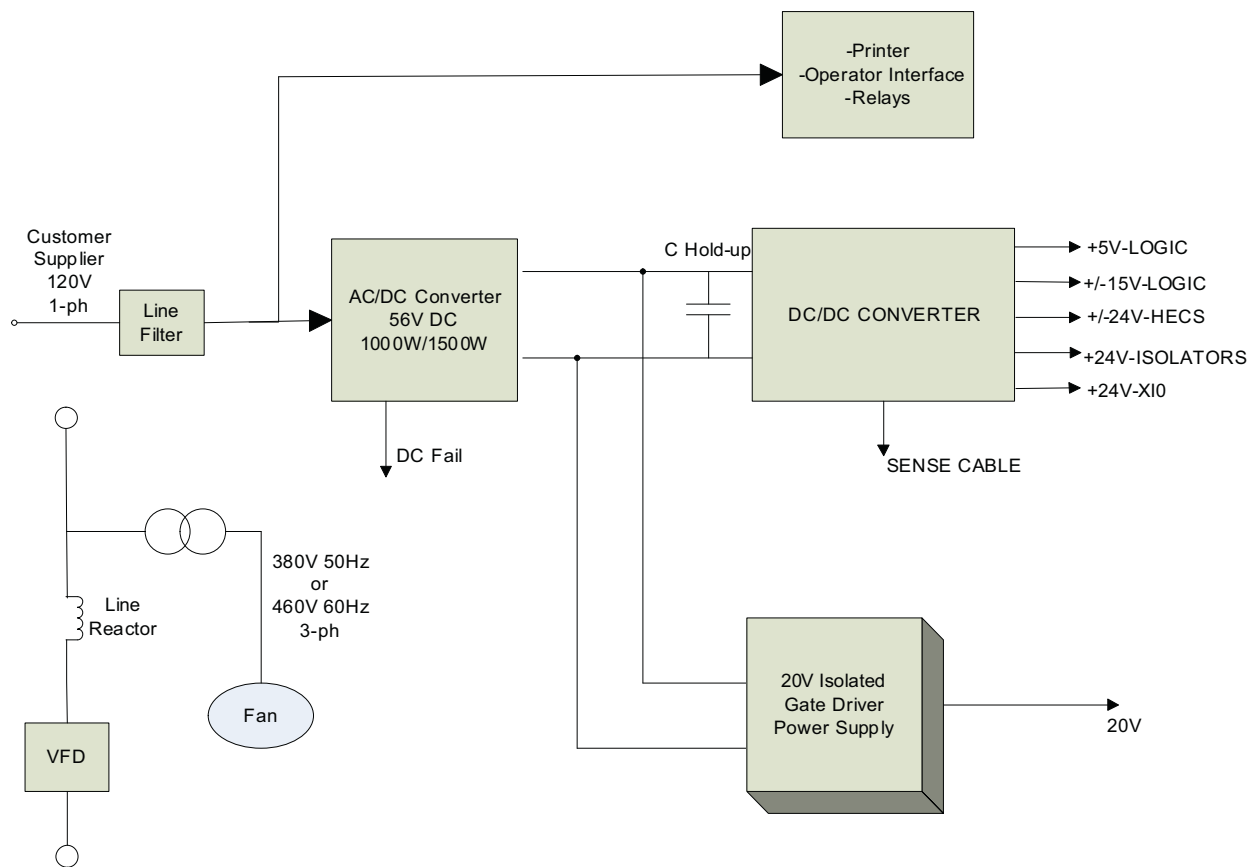

Figure 79 - AFE Line Reactor drives
- Line Reactor Drive (refer to Figure 79)
Figure 79 illustrates the control power distribution for PWM drives with integral starter/line reactor.